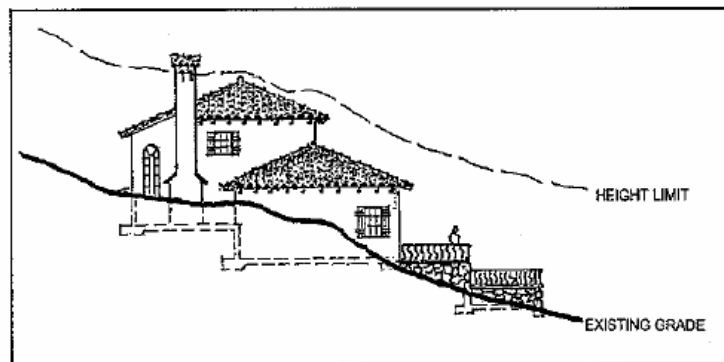

Figure 3-2 - Height Limit
1. **Height of structures located outside of the Summerland Planning Area.** The height of a structure located outside of the Summerland Planning Area shall be the vertical distance between the existing grade and the uppermost point of the structure directly above that grade. The height of any structure shall not exceed the applicable height limit except as provided in Subsections D. through K. below. See Figure 3-2.